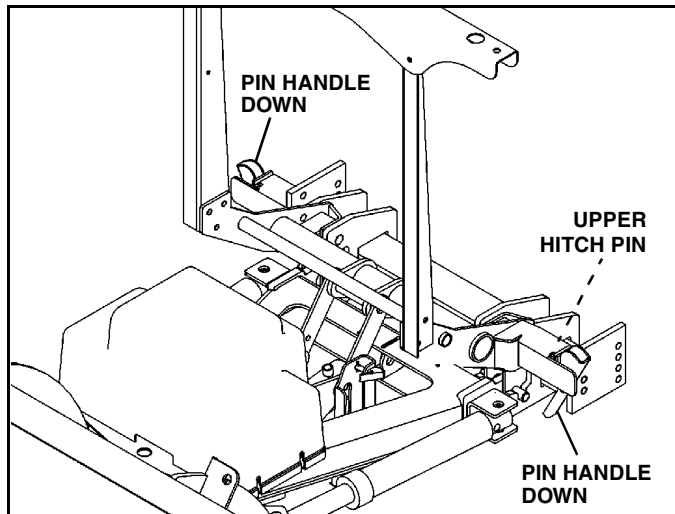

Figure 1-8
4. Put plow into float position by turning down pressure off. Rotate pin handles down to lock pins in place. (See Figure 1-8)